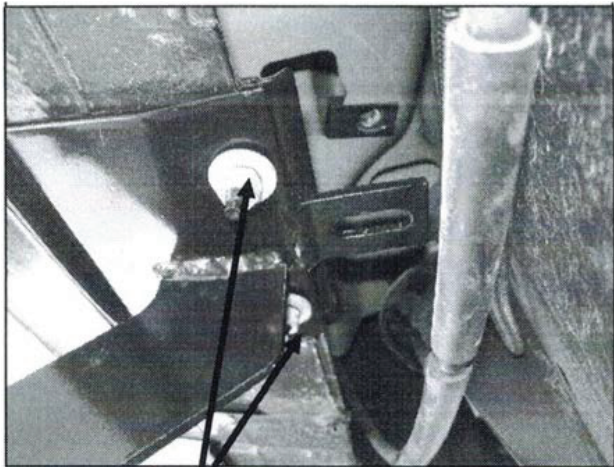

Figure 3
3. Partially hang driver front Mounting Bracket to pinch weld using (2) M10 x 30mm Hex Head Bolts, (2) M10 Hex Nuts, (2) M10 Lock Washers, and (4) 10mm x 30mm x 2.5mm Flat Washers (Figure 3).